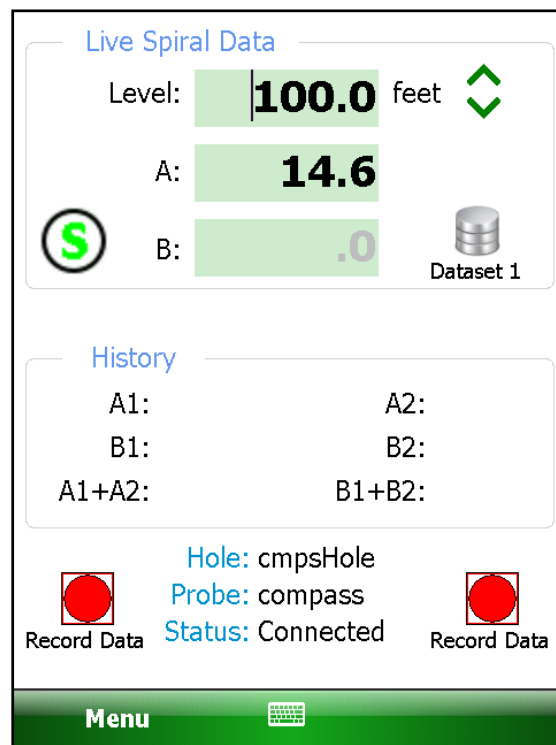

Figure 96 - Live Readings for Spiral Data
6. From the main screen, tap the “Application” menu (Figure 27) then “Live Readings” (Section 3.3.1) to display the “Live Readings” screen for compass headings (see Figure 96).